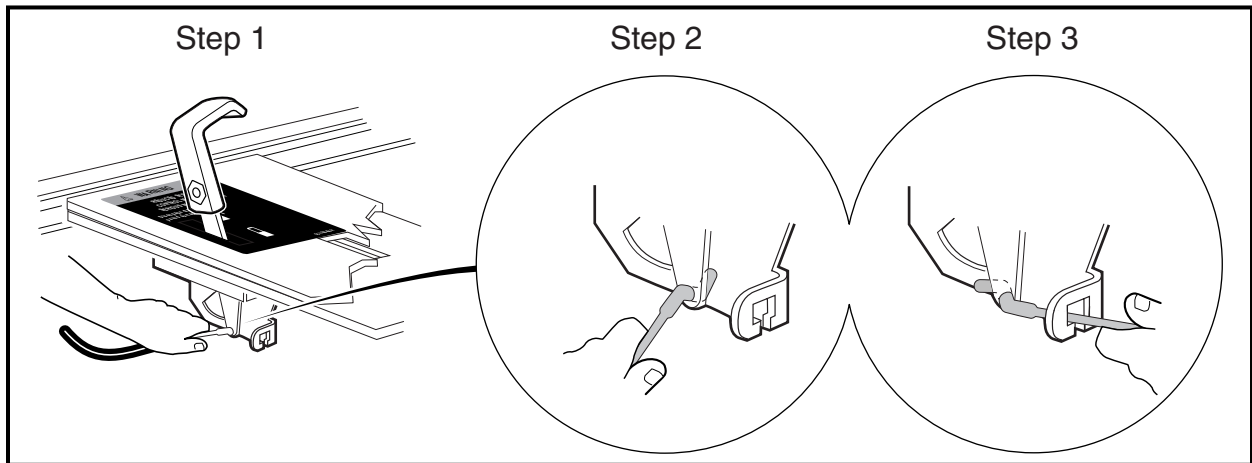

Figure 16-59 Differential Cable End Installation
- 33.1. Connect the end of the differential lock cable to the differential lock handle (Step 1) (**Figure 16-59, Page 16-23**).
- 5.1. Connect the end of the differential lock cable to the differential lock handle (Step 1) (**Figure 16-59, Page 16-23**).